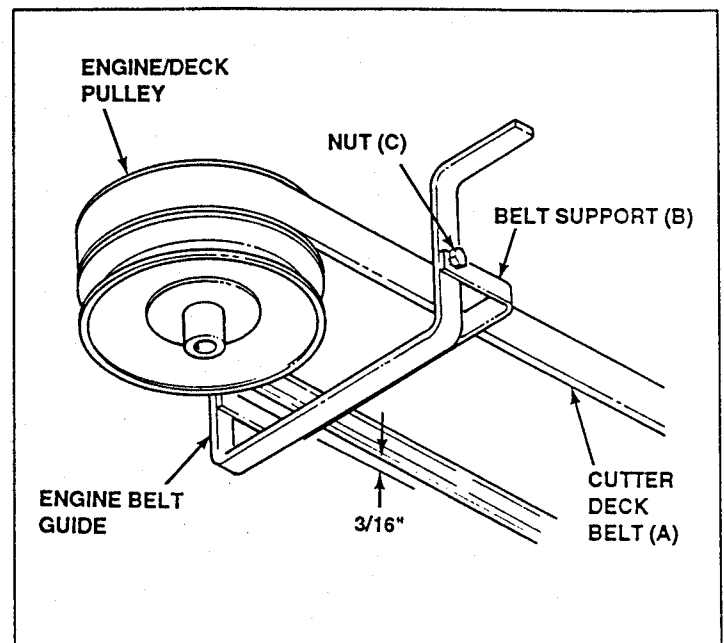

FIGURE 35
2. Check clearance between Cutter Deck Belt (A) and Belt Support (B), if the clearance is greater or less than 3/16" adjust Belt Support (B). Belt Support (B) is positioned beneath Cutter Deck Belt (A). See Figure 35.
3. To adjust Belt Support (B), loosen both Nuts (C) then move Belt Support (B) up or down until there is 3/16" clearance between Cutter Deck Belt (A) and Belt Support (B). See Figure 35.